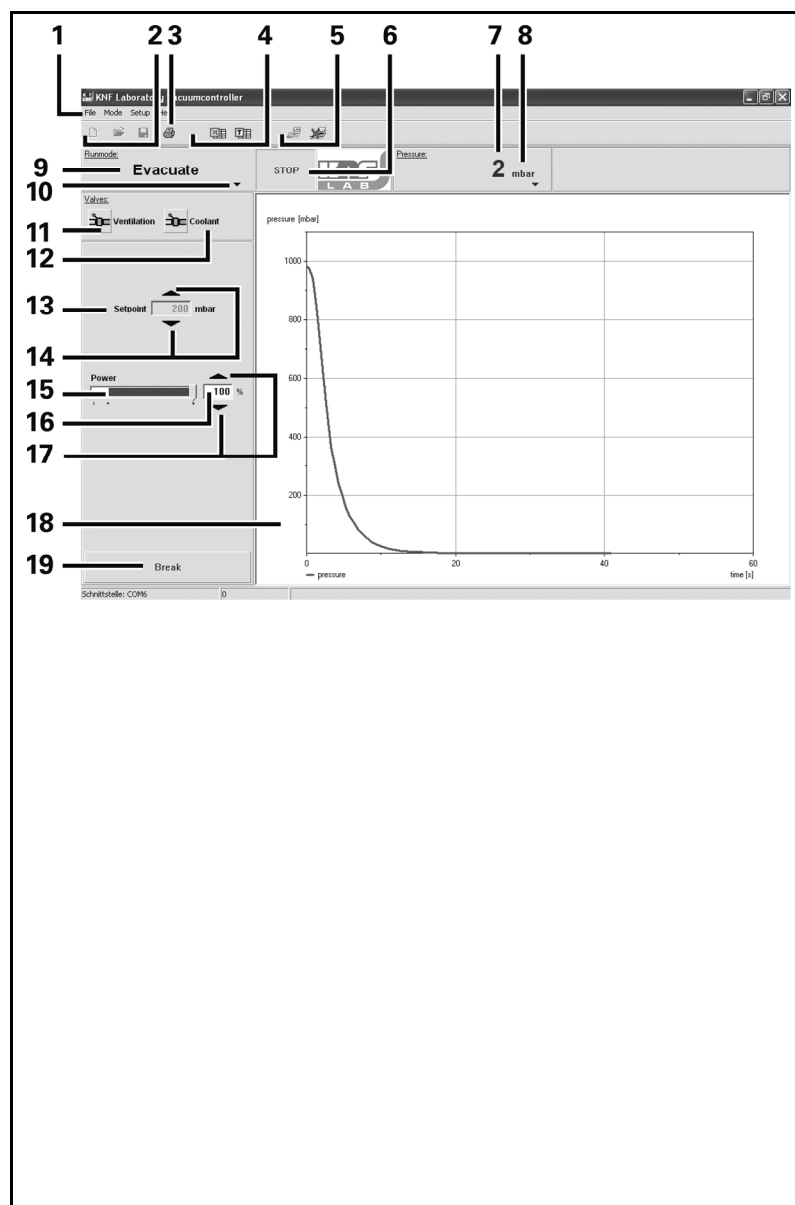

Fig. 15: Example of software interface showing *Evacuate* operation mode
Fig. 15 displays an example of the software interface.
The connection to the vacuum pump system is established and separated by pressing the corresponding button (see figure 15/5, page 31). If several vacuum pump systems are connected to the PC, select the desired vacuum pump system from the list.
Pressure units menu (Fig. 15/8, page 31)
- Diagram: Operating mode menu (Fig. 15/10, page 31)
- ➔ Press START/STOP button (Fig. 15/6, page 31).
- ➔ Press Ventilation valve button (Fig. 15/11, page 31).
- ➔ Press Coolant valve button (Fig. 15/12, page 31).
- ➔ Adjust pump capacity by moving slide control (Fig. 15/15, page 31), button (17) or display (16).
- ➔ Set setpoint pressure with the Increase/decrease setpoint pressure button (Fig. 15/14, page 31) or enter data into display (13) via keyboard.